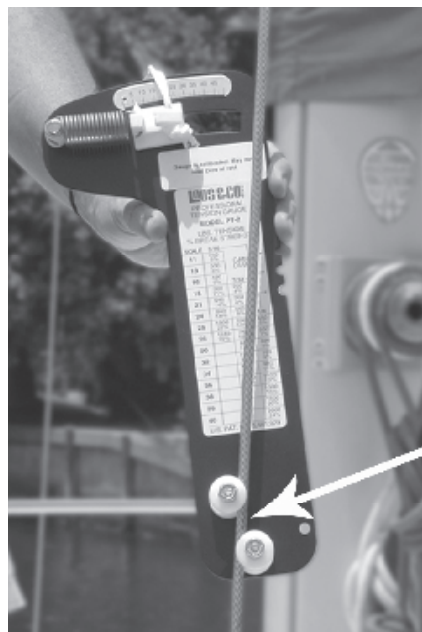

Fig. 1
1. Hold the gauge with the left hand and place the cable between the two nylon spools as shown in Figure 1.